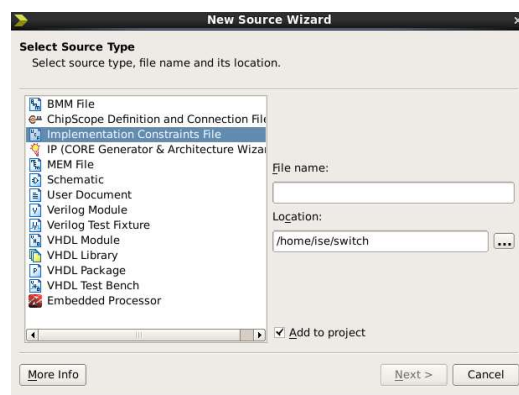

Fig 1.25: Implementation constraints file
27. In **Implementation Constraints File** enter the name of the UCF to be generated (Fig 1.25).